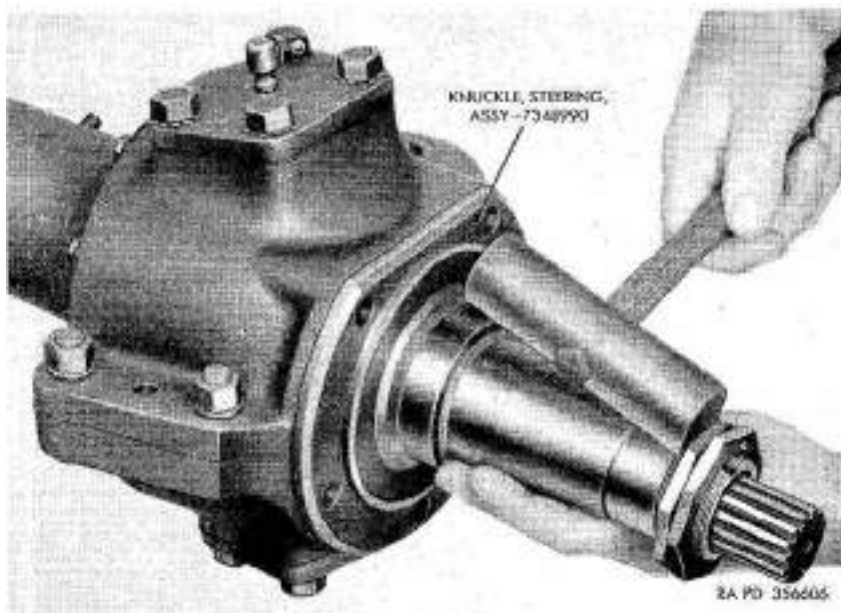
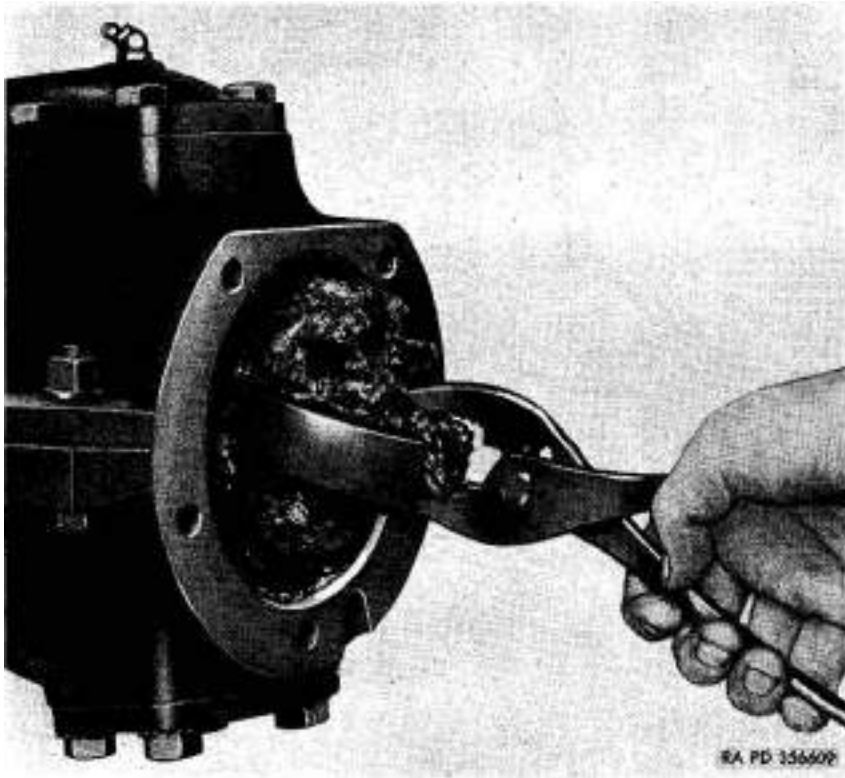

Figure 49. Removing steering knuckles.
Figure 50. Removing universal drive male joint and inner shaft.
- (4) Remove flexible lines from wheel cylinders.
b. Remove Brake Support Assemblies, Steering Knuckles, and Universal Drive Assemblies. Remove cap screws, lock washers, and brake support assemblies. Temporarily install one or both bearing outer adjusting nuts on steering knuckles. Strike adjusting nuts with a plastic hammer and remove steering knuckles (*fig. 49*). Remove universal drive outer shafts and universal drive female joints. Remove both universal drive male joints and universal drive inner shafts (*fig. 50*).